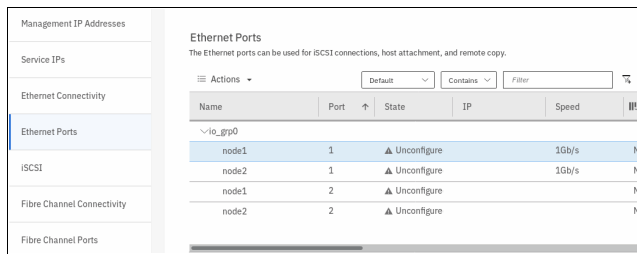

Figure 5-60 Select port to configure iSCSI traffic
5. Click **Ethernet Ports** to enter the iSCSI IP address (see Figure 5-60). Select the wanted port to configure. Then, select the **Actions** menu, and select **Modify IP Settings**. Repeat this step for each port that you want to use for iSCSI traffic.